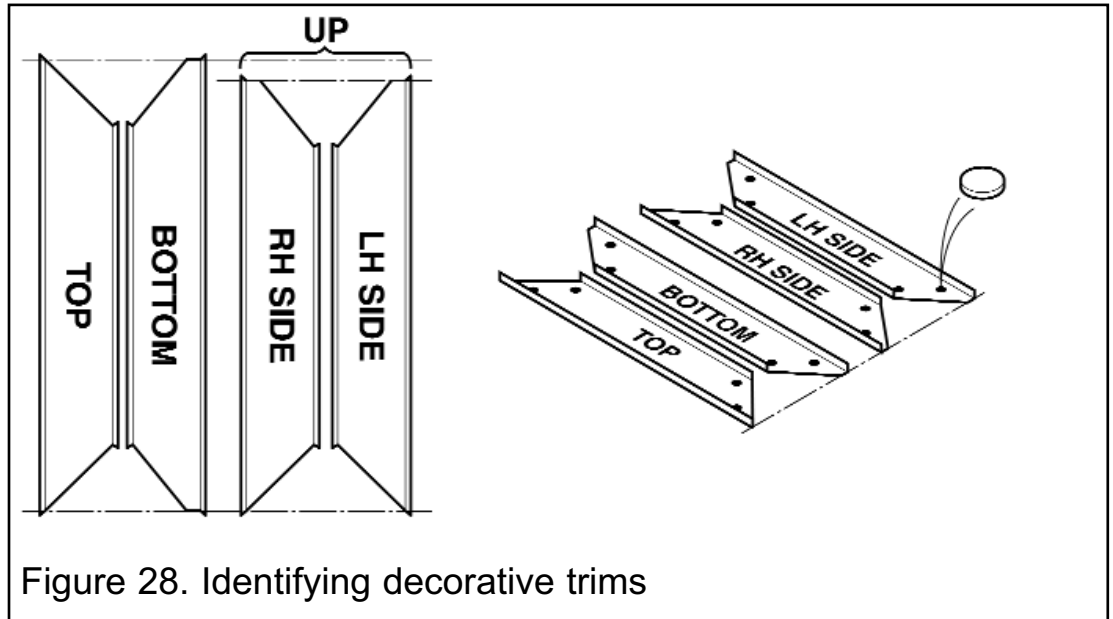

Figure 28. Identifying decorative trims
3. The fascia decorative trim is made up of four sections. A bottom and top section of equal length and two shorter sections of equal length that are the side sections. These can be identified as in figure 28.
5. The trim sections are held in place using 16 magnets. Position the magnets as in figure 28.